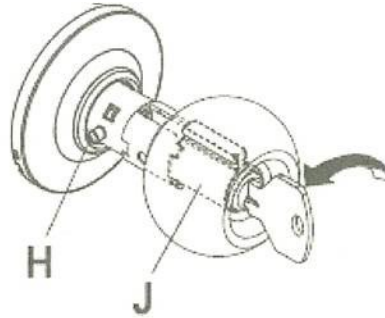

Figure 9-2. Door Lockset.
3. Make sure both the lockset and deadbolt are installed so the key direction (notches up) is the same. If necessary, the lockset can be changed to place the notches up, as follows (see Figure 9-2). Unlock the installed lock. Insert the key **half-way** (do not insert completely). Push in the retainer pin (H) on the neck of the knob and pull the knob just past the pin. Continue holding the knob and use the half-way inserted key to rotate the cylinder (J) to the correct orientation. Push in the retainer pin and push